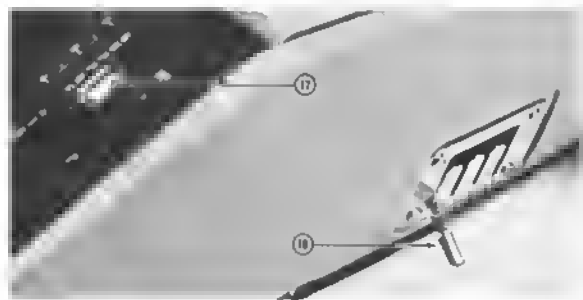

Figure 15
The horizontal spacing lever (18) is easily lifted and lowered into each of the four slots. The selected spacing appears in indicator window (17). Figures 15 and 16 show lever and window for "A" and "D" horizontal spacings.